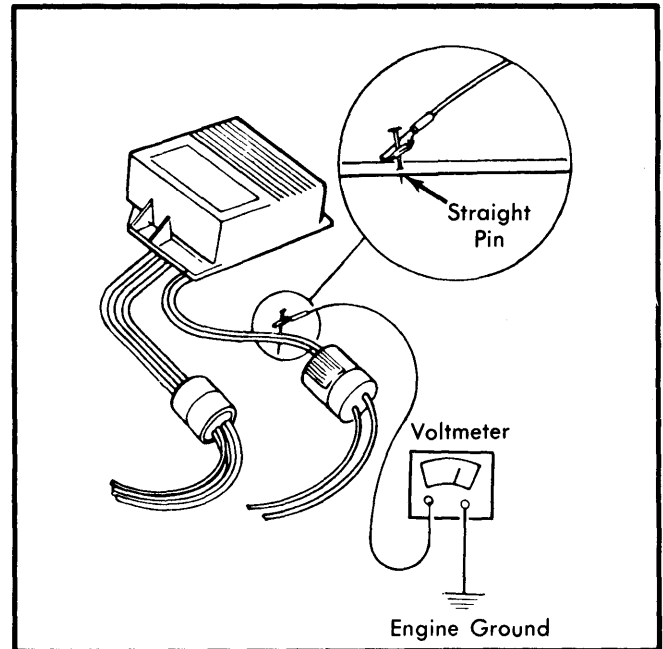
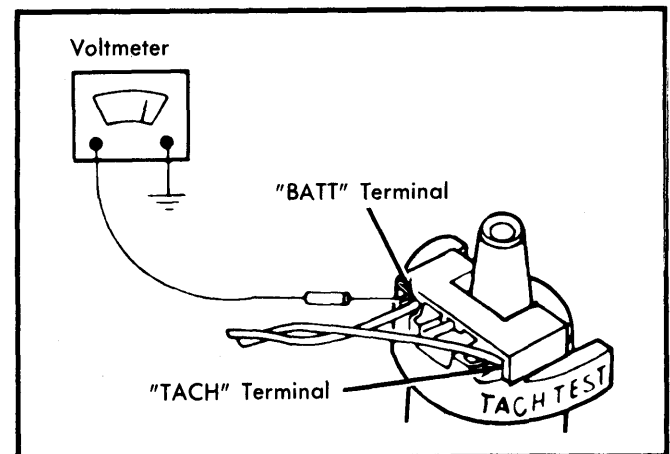

Fig. 7 Checking Control Module Feed Wires (Red or White Wire Circuits)
Fig. 8 Checking Battery Voltage at Coil
1) Turn ignition switch to "RUN" position. Using a small straight pin, puncture red wire between control module and connector. See Fig. 7. Attach positive voltmeter lead to straight pin and negative lead to ground. Do not let pin touch ground.
2) Hold ignition switch in "START" position. Connect voltmeter positive lead to coil positive ("BATT") terminal and negative lead to ground. See Fig. 8. Record reading. Then puncture white wire with a straight pin between control module and connector. See Fig. 7. Attach positive voltmeter lead to pin and negative lead to ground. Do not let pin touch ground.